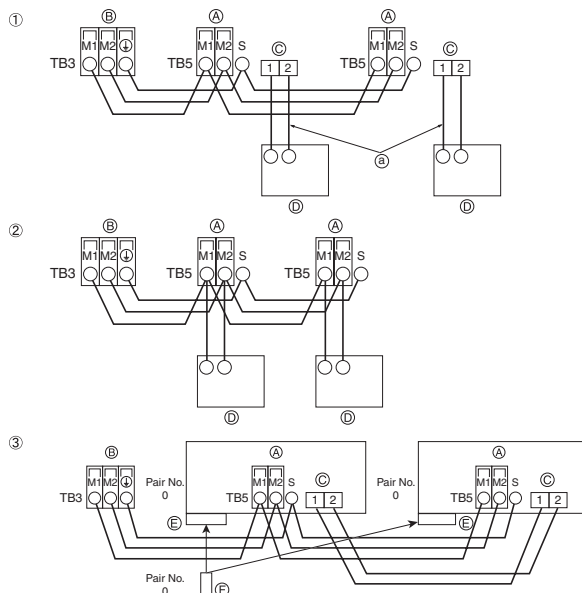

Fig. 5-4
5.4. Connecting remote controller, indoor and outdoor transmission cables (Fig. 5-4)